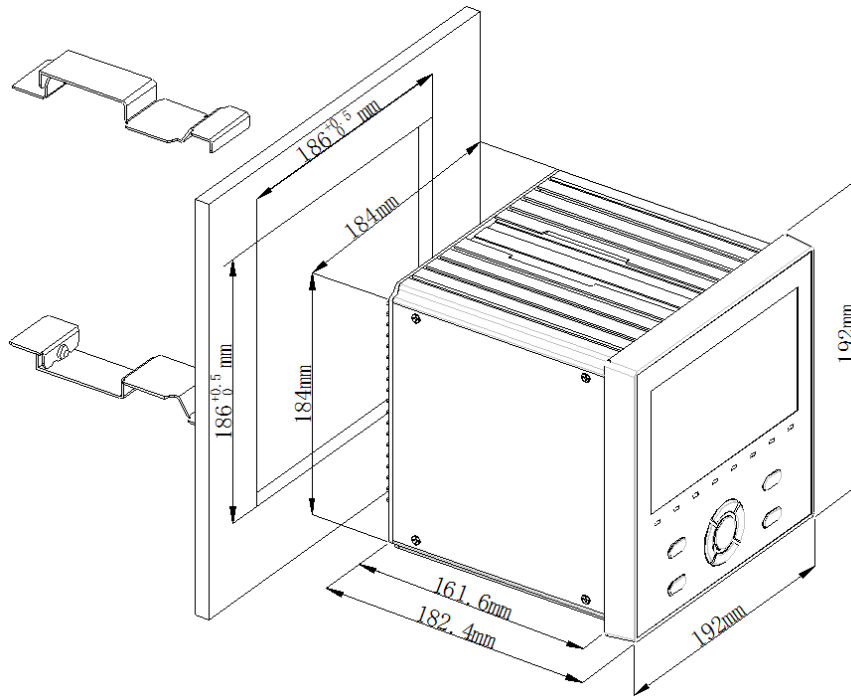

Figure 2-5 Panel Cutout
- Fit the meter through a 186mmx186mm cutout as shown in **Figure 2-5 Panel Cutout**